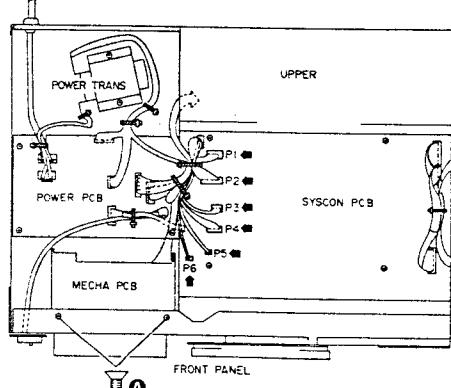

Fig. 3-5
- 2) Remove the six connectors P1-P6 from the SYSCON PCB. Remove mechanism block securing screws ②. (Refer to Fig. 3-5)